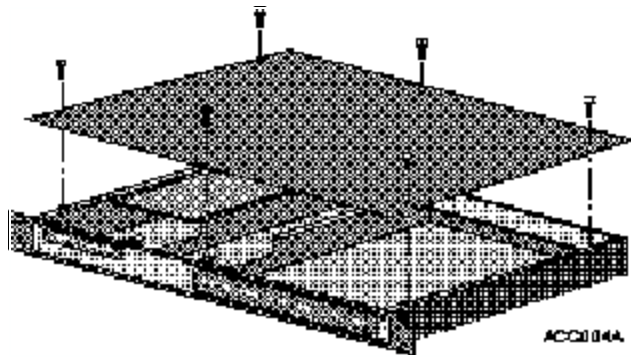

Figure 1. Remove the Top Cover
2. Remove the six phillips screws securing the top cover of the System Unit and remove the top cover. See Figure 1.